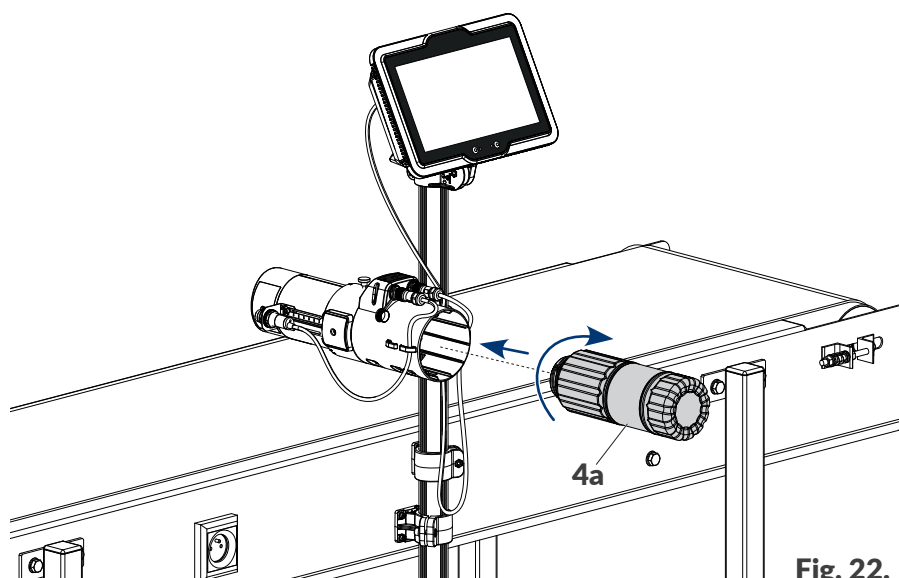

Fig. 22.
11. Install a 1-liter (**4a**; see Fig. 22) or 0.5-liter bottle of ink of an appropriate type.